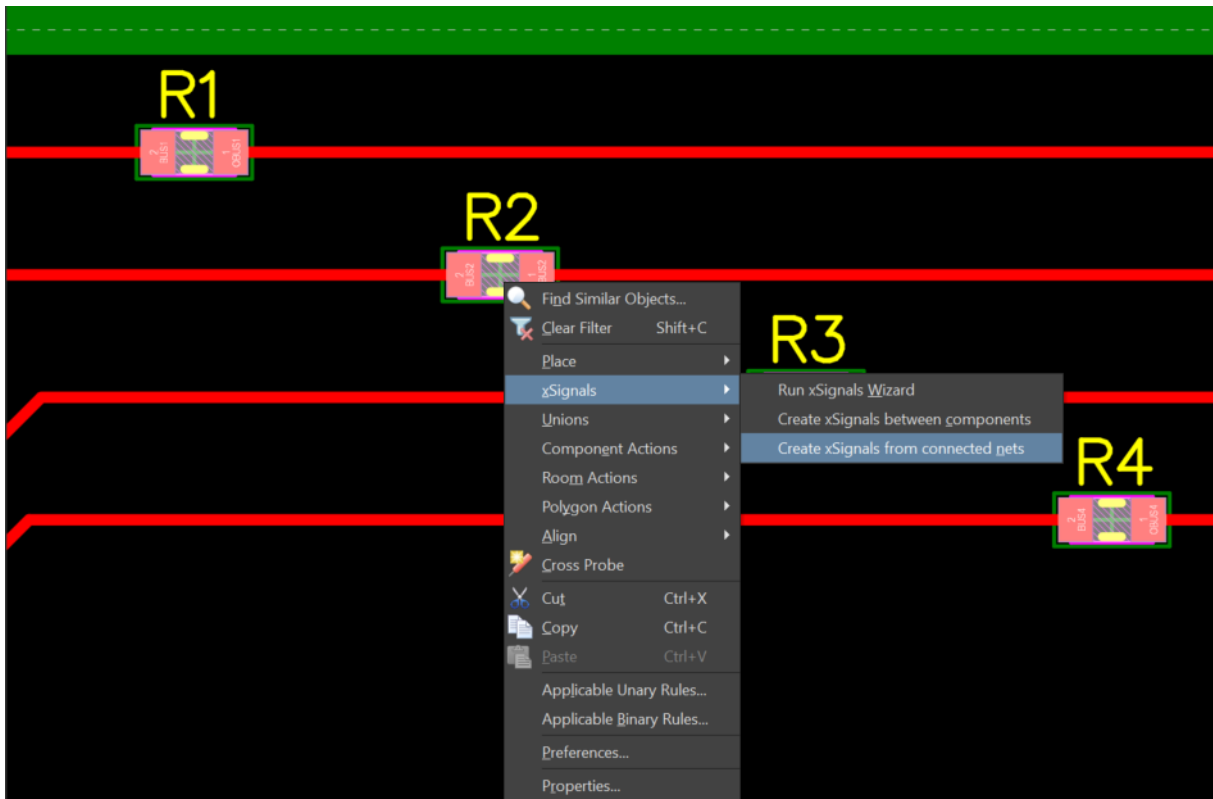

Figure 5. Create xSignals between components dialog
9. From the right-click menu, select **xSignals » Create xSignals From Connected Nets** as shown in Figure 5. This method is one of the most common methods to create multiple xSignals at once.